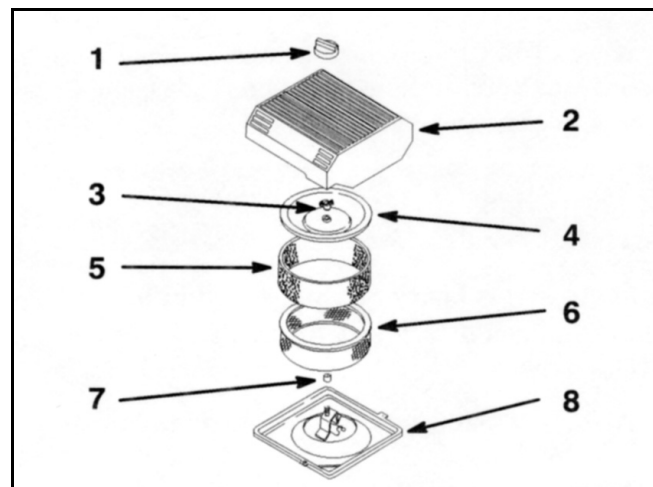

Figure 3
2. Release the latches on the air cleaner and pull the air cleaner cover off of the air cleaner body (Figure 3).
4. Gently slide the primary filter out of the air cleaner body (Figure 3). Avoid knocking the filter into the side of the body. Do not remove the safety filter, unless you intend to replace it as well.
2. If the safety filter is being replaced, carefully slide it into the filter body (Figure 3).
3. Carefully slide the primary filter over the safety filter (Figure 3). Ensure that it is fully seated by pushing on the outer rim of the filter while installing it.
Install the air cleaner cover with the side indicated as **UP** facing up and secure the latches (Figure 3).